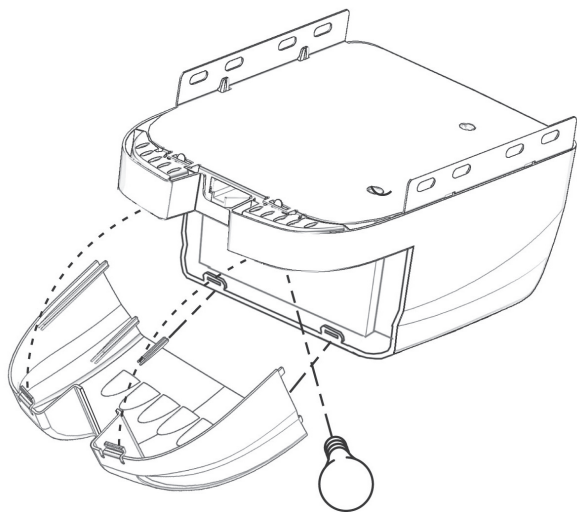

Figure 14 Install Lens and Light bulb
- A** Install a light bulb (100 Watts or less)(not included) into Light Socket (**Figure 14**):